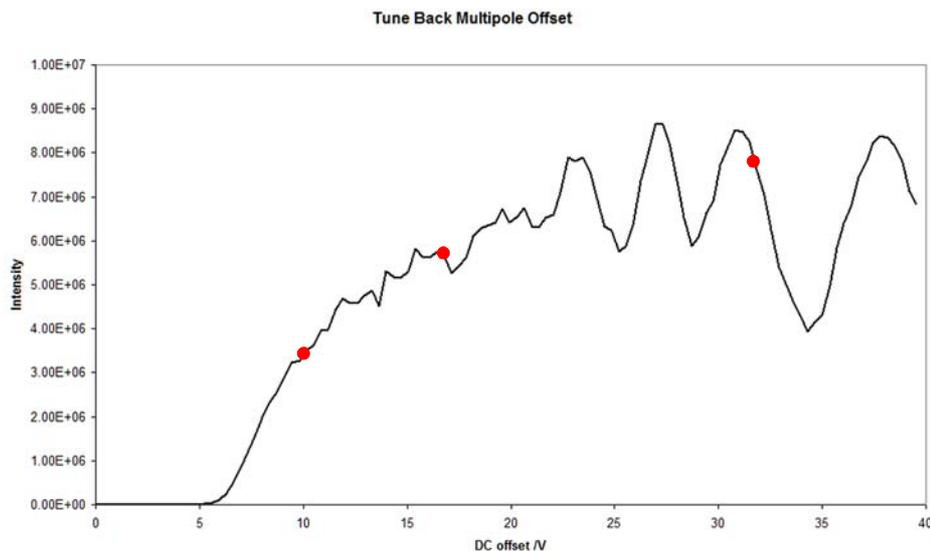

Figure 8-20. Dependence of the signal from the DC Offset
6. Search for a local maximum just before the oscillations on the signal start. (In the example shown in Figure 8-20, that would be at about 17 V).
In the example shown in Figure 8-20, nodding starts at above 20 V. In this region, the signal is fragile. Depending on the DC Offset (for comparison: 10 V, 17 V, and 32 V; red points) the calibration curves look differently.